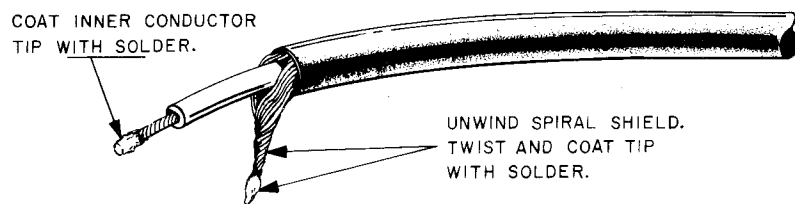

FIGURE 7.
- ☒ Prepare the red and gray shielded cables as shown in Figure 7. With your cutters, remove the spiral shield at one end of each cable.